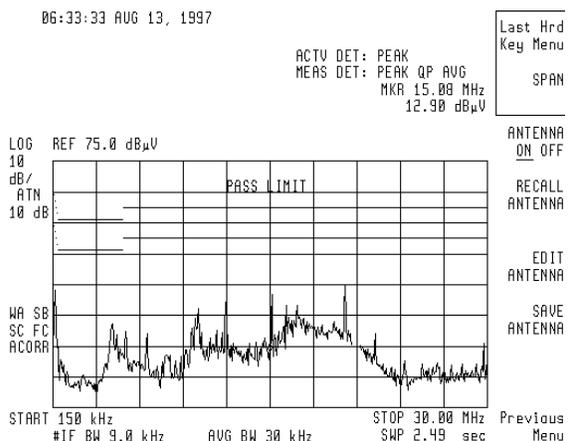

Figure 7: A conducted test in an ambient environment
At this point the EMI receiver is set up with all the correct parameters, including bandwidth, frequency range, LISN compensation and limit line. There is one more thing to consider before starting conducted measurements, which is the effect of the ambient environment on the results. The power cable between the LISN and the EUT can act as an antenna, which can cause false EUT responses on the display. To test that this phenomenon is not occurring, switch the EUT off and check the display to insure that the noise floor is at least 6 dB below the limit line. (See Figure 7).
1. Press [CTRL] in the Windows section then use <ZONE CENTER> and <ZONE SPAN> to zoom in on the signals of interest in the active trace. (See Figure 7).